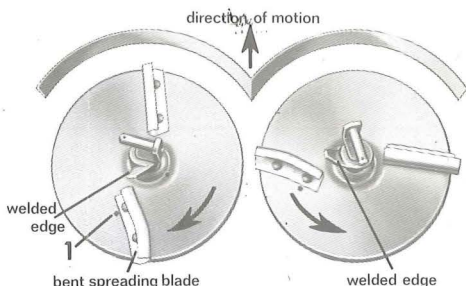

Fig. 12
- When replacing stirrer heads ensure that the agitator knife is immediately above the bent blade on the spreading disc and that the hardened surface on the cutting knife points in the direction of travel (see Fig. 12).
- Place spreader discs onto new gear box according to marking (see Fig. 12).
For damp, pulverised fertilizer the bent spreading blades for each disc must be adjusted forward (see Fig. 12/1).